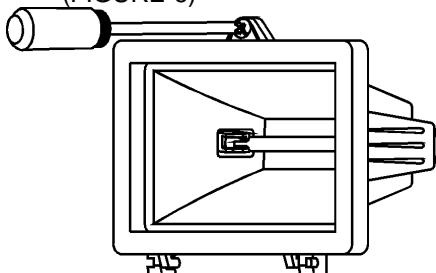

FIGURE 6
- (6) Carefully replace front surround making sure that the seal is correctly positioned. Screw up tightly. (FIGURE 6)